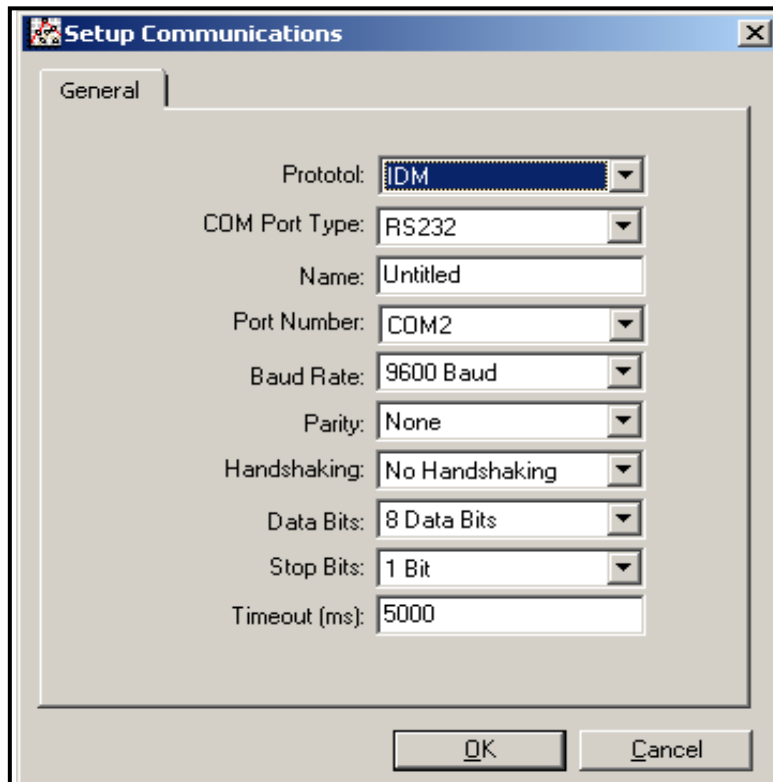

Figure 18: Setup Communications Screen
- Click on the "Communications Port" option to select it. The *Setup Communications* screen appears similar to Figure 18 below.